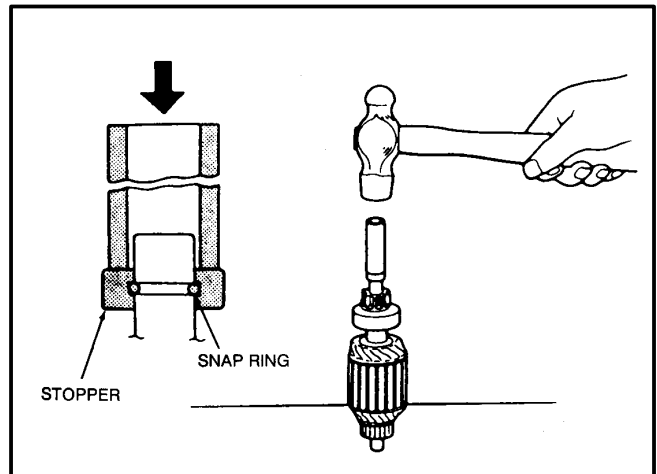

FIGURE 9-2. REMOVING OVERRUNNING CLUTCH
8. Push the stopper toward the pinion and remove the snap ring. See Figure 9-2.